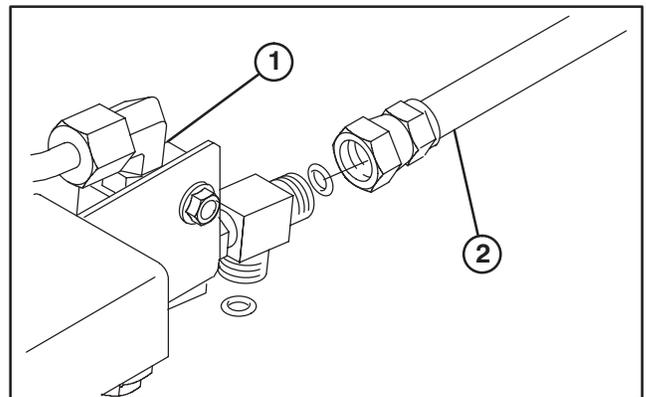

Figure 18
31. Connect hydraulic hose from filter “IN” port to auxiliary relief valve tee fitting (Fig. 18)